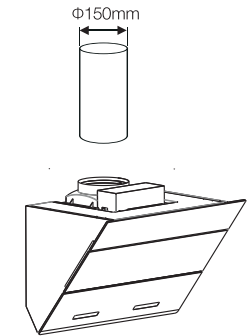

Fig.8
- Fit the flexible flue to the duct transition (Fig.8). Use fixing tapes to secure flexible pipe to the duct transition.